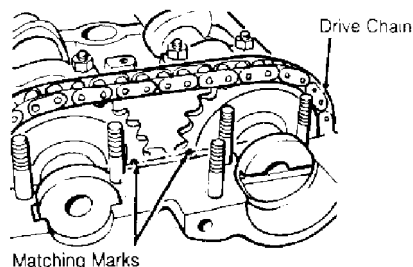

Fig. 13: Aligning Camshaft Gears & Drive Chain (16-Valve)
1) Place drive chain on both camshaft gears. Align matching marks on gears and place both camshafts in cylinder head. See Fig. 13.